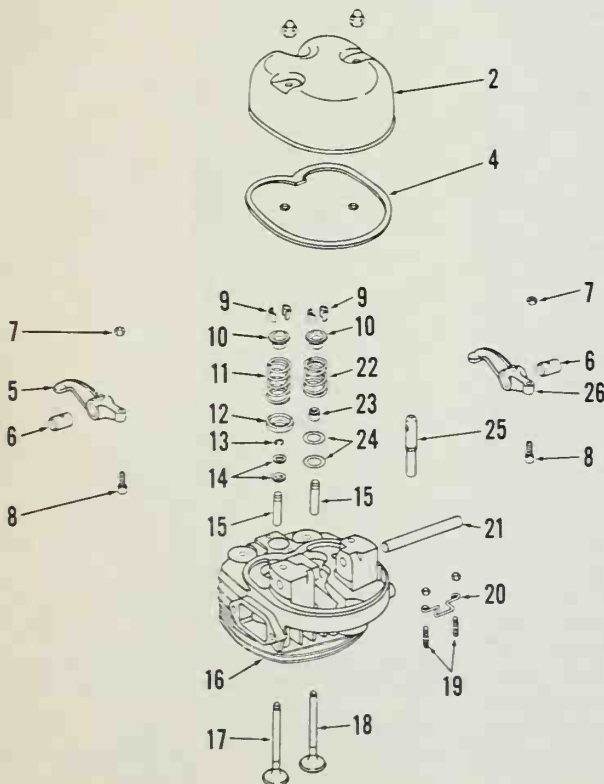
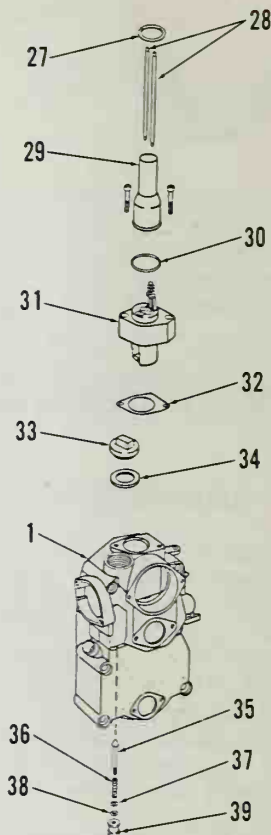
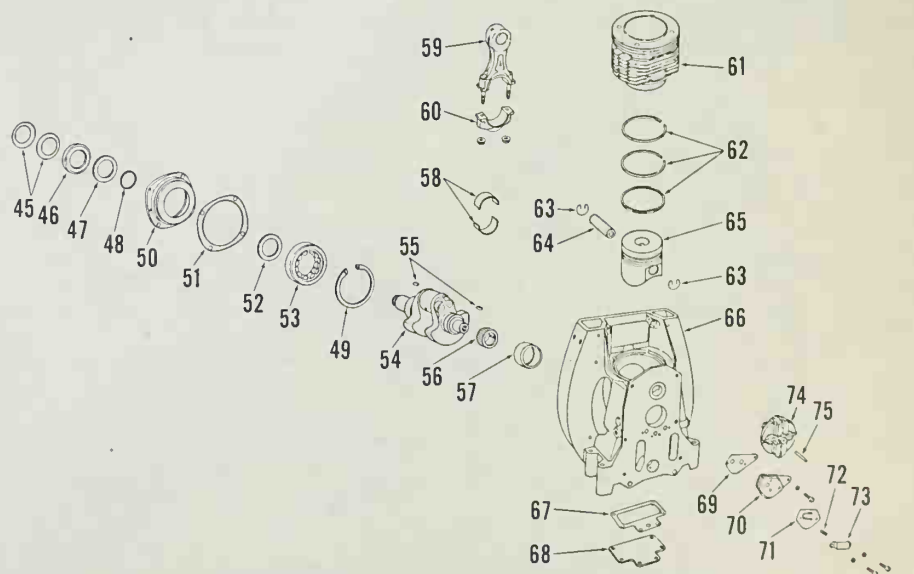
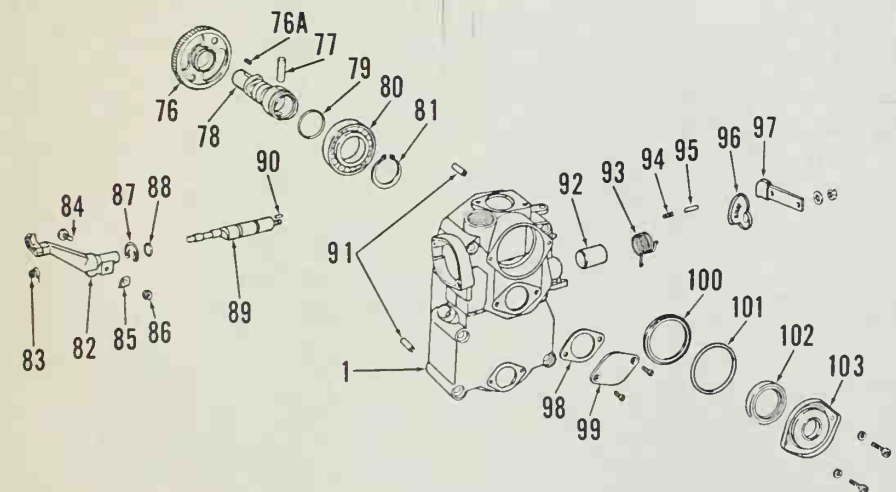

Fig. F1-3 - Exploded view of cylinder head.
Fig. F1-4 - Exploded view of push rod tube and excess fuel assemblies. Excess fuel components (35 through 39) are not used on Model 15A430.
Fig. F1-7 – Exploded view of crankcase assembly.
Fig. F1-9—Exploded view of front cover assembly.
Valve face and valve seat angles are 45 degrees for intake and exhaust valves. Minimum allowable depth of valve in head measured from top of valve to cylinder head surface is 0.0-0.1 mm. Valve guides (15 - Fig. F1-3) are renewable and identical. Valve springs are dissimilar. Note that rotator (12) is located under the exhaust valve spring and valve stem seal (23) is used on the intake valve.
Install a new "O" ring (27 - Fig. F1-4) around push rod tube before installing cylinder head. Model 18A430 is equipped with a head gasket while Model 15A430 is not so equipped. Tighten cylinder head retaining nuts in a crossing pattern to a torque of 30 N·m. Install clip (20 - Fig. F1-3) so clip bears against end of push rod tube. Push rod nearer cylinder is connected to intake valve rocker arm.
Compression release (31 - Fig. F1-4) is
Model 18A430 is equipped with an excess fuel device (35 through 39 – Fig. F1-4) to aid starting. Pushing up on starter knob (39) forces shaft (35) against governor arm which moves fuel injection pump control arm to intermediate position for additional fuel.
R&R AND OVERHAUL. The cylinder is removable after removing cylinder head. After cylinder is removed, cover crankcase opening to prevent entry of foreign material. Extract piston pin retainers (63 – Fig. F1-7), remove piston pin, then separate piston from connecting rod.
REMOVE AND REINSTALL. To remove connecting rod, drain oil and remove cylinder. Detach cover (68 – Fig. F1-7) on crankcase bottom. Reach through cover opening, unscrew rod cap retaining nuts and withdraw rod cap through cover opening. Remove piston and rod unit from top of engine. If required, separate piston from rod.
REMOVE AND REINSTALL. To remove front cover (1—Fig. F1-9), drain oil, then remove rocker arm cover and extract push rods. Remove push rod tube hold down clip (20—Fig. F1-3) and slide push rod tube up into cylinder head. Remove fuel injection pump. Unscrew six front cover screws and remove front cover; it may be necessary to rotate engine crankshaft if governor mechanism snags.
R&R AND OVERHAUL. Remove the front cover as previously outlined for access to the oil pump. Remove oil pump components (69 through 73—Fig. F1-7). Be careful when handling oil
R&R AND OVERHAUL. Remove front cover as previously outlined for access to governor. Governor shaft assembly may be disassembled after detaching retaining ring (87—Fig. F1-9). Remove pin (75—Fig. F1-7) and unscrew governor flyweight assembly (74) from crankshaft; **note that stud has left-hand threads.**
Reassemble governor as follows: Install flyweight assembly (74) on crankshaft and tighten to 34 N·m; **note that stud has left-hand threads.** Install flat-head screw (84—Fig. F1-9), lockwasher (85) and nut (86) so flat head is opposite governor arm. Place governor arm (82) in front cover. Install pin (90) spring (93), plate (96), lever (97) and “O” ring (88) on shaft (89). Insert shaft assembly into front cover and governor arm (82). Turn lever (97) so it points toward bottom of front cover (away from camshaft), then install spring (83) so small spring end engages slot in shaft end and long spring end is on same side as nut (86). Install retaining ring (87), then engage long end of spring (93) with boss on side of front cover. Engage
With front cover installed, adjust position of flat-head screw (84) as follows: Remove cover (99) then rotate crankshaft so governor flyweights are positioned with mating surfaces vertical. Loosen locknut (86). Using a small screwdriver, spread flyweights apart as far as they will go. Turn screw (84) so it just contacts pin (75—Fig. F1-7), release flyweights, then turn screw (84—Fig. F1-9) in an additional ½-turn. Without disturbing screw, tighten locknut.
housing (31—Fig. F1-4), and components (100 through 103—Fig. F1-9). Remove snap ring (81) and press camshaft (78) out of bearing (80). Then, press bearing (80) out of front cover (1).
R&R AND OVERHAUL. To remove crankshaft, drain oil and remove flywheel, front cover and connecting rod. Remove governor flyweight assembly (74—Fig. F1-7) from crankshaft. Remove Belleville washers (45), washers (47 and 52) and “O” ring (48). Unscrew main bearing support nuts and remove main bearing support (50). If main bearing support will not remove easily, jack screws may be threaded into holes provided in support to push support free from crankcase. Remove crankshaft.